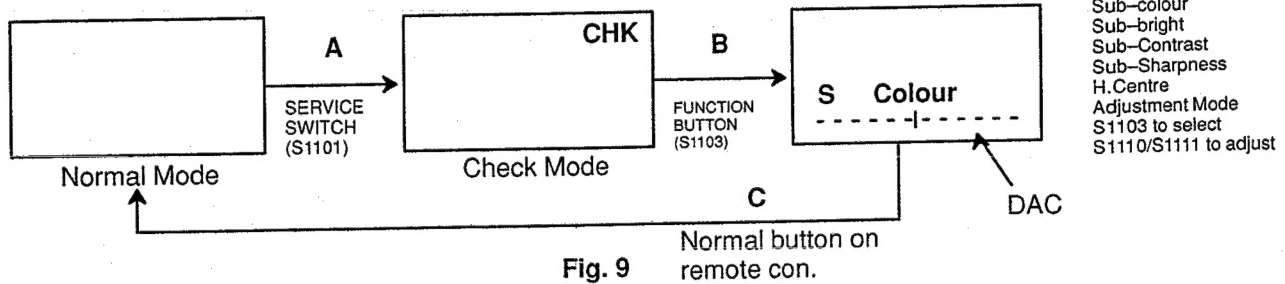

**Fig.8**
2. Stand the TV set as shown in fig. 8.
3. Remove the E-Board from the TV set by pressing the chassis guide and pulling the main board out as shown in figure 8.